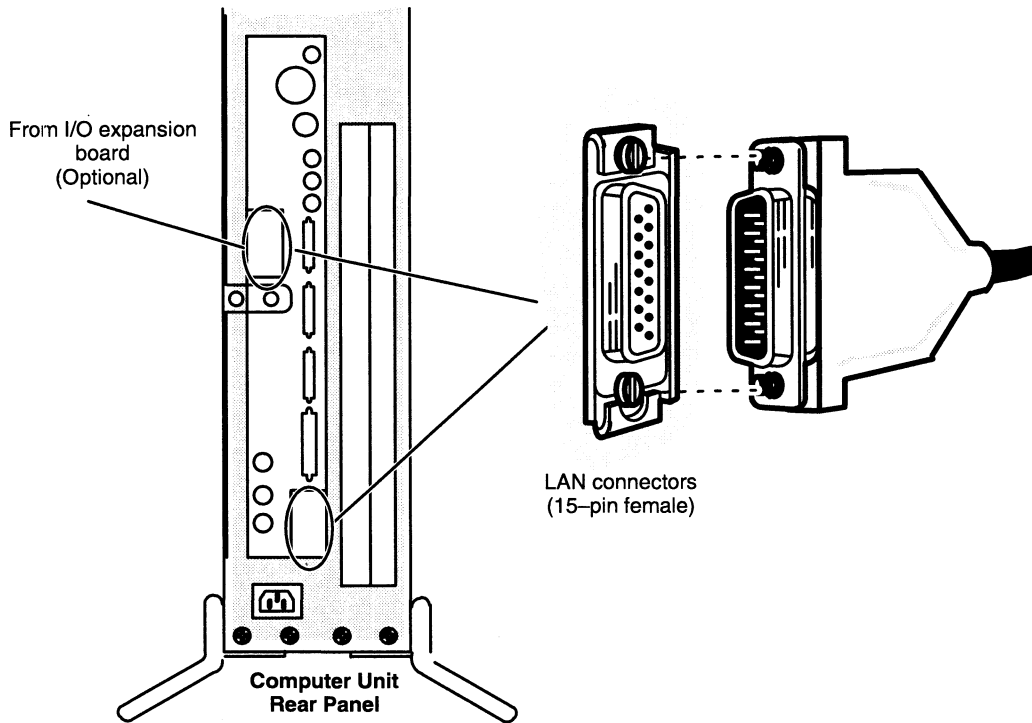

Figure 2-7 Connecting the LAN Transceiver Cable to the Computer Unit
1. Align the holes in the transceiver cable with the pins in the computer unit LAN connector, shown in Figure 2-7.